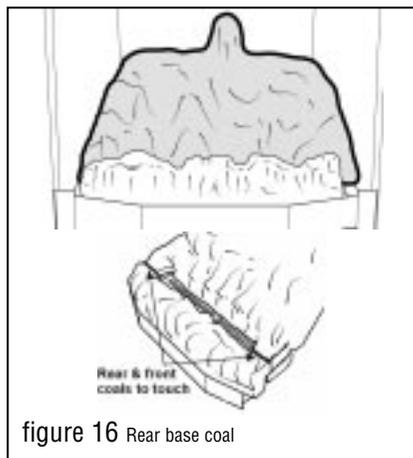

figure 16 Rear base coal
- 7.2 Place the rear base coal in the burner compartment behind the front coal. It should rest on the ledge at the back of the burner compartment. The projections at the sides of the rear coal should touch the front coal. See figure 16.